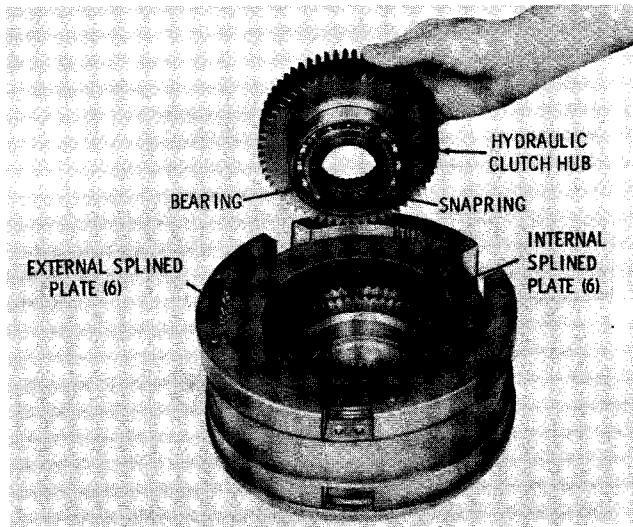

Fig. 5-27. Removing hydraulic drive clutch hub (VS series)
(4) Remove nine bolts from the clutch cover. Remove cover and piston assembly by tapping lightly on the edge with a soft hammer.
(5) Remove piston 23 (A, foldout 12) from the cover. Remove seals 25 and 27, and expanders 24 and 26 from the piston (para 4-8).
(6) Remove six piston return springs 22. In earlier model transmissions, remove snapping, spacer and Belleville spring (not illustrated — used instead of springs 22).
(7) Remove the hydraulic clutch hub (fig. 5-27) with bearing and snapping. Remove the bearing and snapping from the hub. Remove six external-splined and six internal-splined clutch plates.